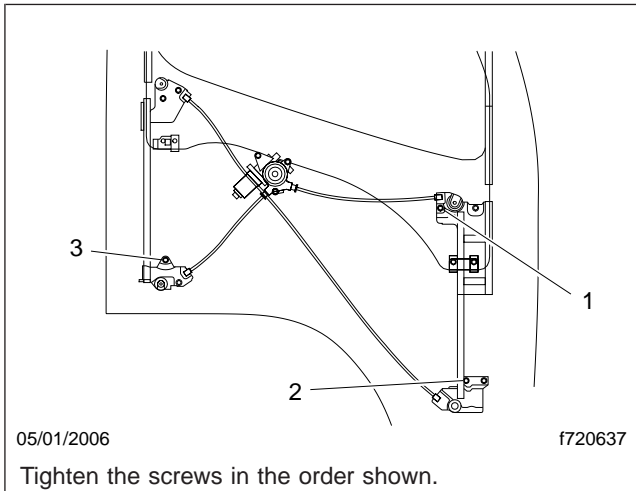

Fig. 7, Slide Mounting Screw Tightening Order
- 1.1 Position the two slides on the door and secure them with screws. Apply Triton 460 grease to the slide tracks and make sure the slides run smoothly. Attach the slides to the door panel and tighten the slide mounting screws 35 to 53 lbf-in (400 to 600 N·cm). Use the order shown in Fig. 7.